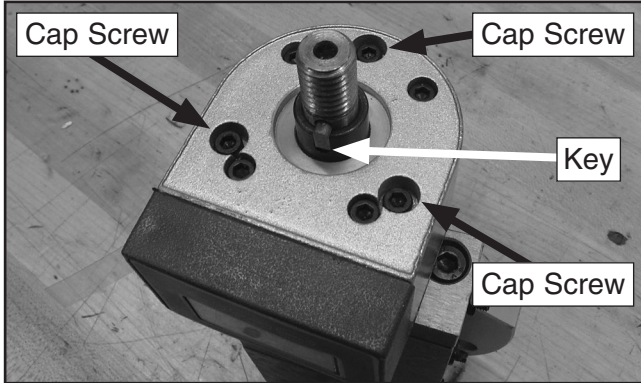

Figure 18. DRO installed and key in keyway.
26. Attach the DRO to the adapter with three M3-.6 x 25 cap screws, as shown in **Figure 18**.